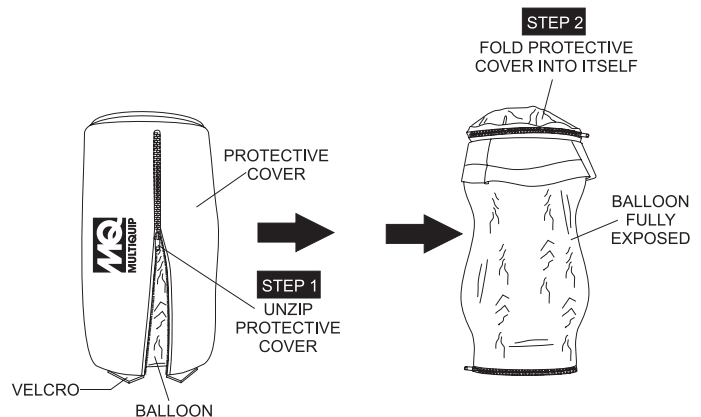

Figure 10. Exposing the Balloon.
4. Expose the balloon by pulling down on the velcro tabs and unzip the protective cover as shown in Figure 10. Next, fold the protective cover into itself and zip.